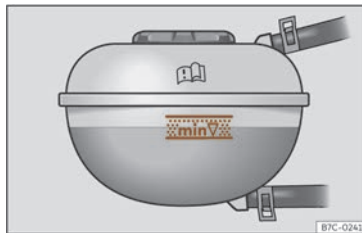

Fig. 216 In the front compartment: marking on coolant expansion tank.
- When the engine is cold, check the coolant level using the side marking on the expansion tank >>> **Fig. 216**. The coolant level should be between the marks.
- The coolant level must be between the marks on the expansion tank >>> **Fig. 216**. **Never exceed the top edge of the marked area >>> ⚠.**
- When topping up the, do not fill over the upper edge of the marked area >>> **Fig. 216**. Otherwise, when the temperature rises the excess fluid will be expelled from the motor cooling system and could cause damage.